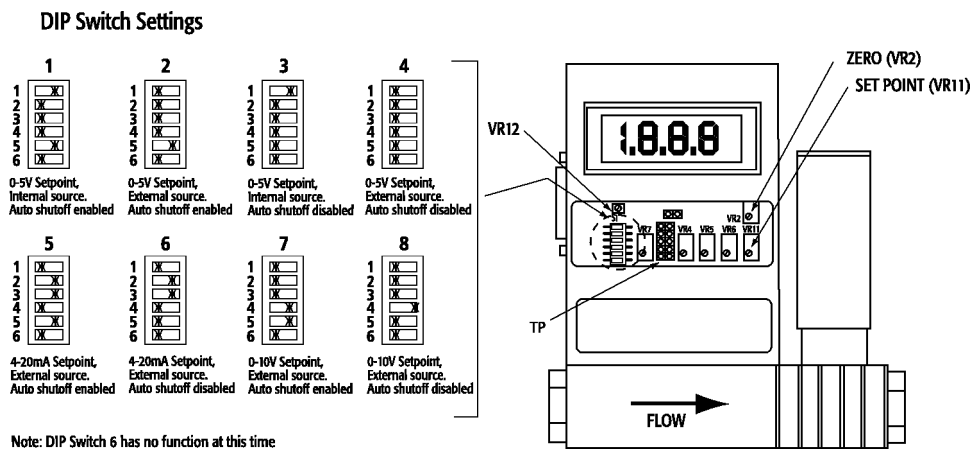

Figure 3-1 Component Location and DIP Switch Set-up of Mass-Trak
## Setpoint Configuration (see Figure 3-1)
If your unit is experiencing one of the other symptoms listed above, remove the small front access door to expose the test points, pots and DIP switches. (see figure 3.1)
**TESTPOINT BLOCK (labeled TP in Figure 3.1):**